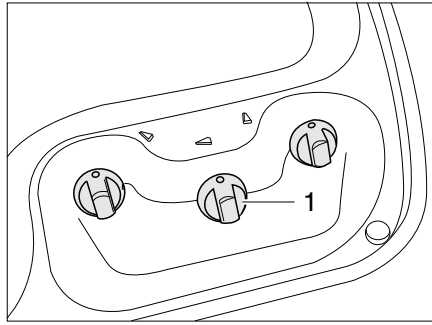
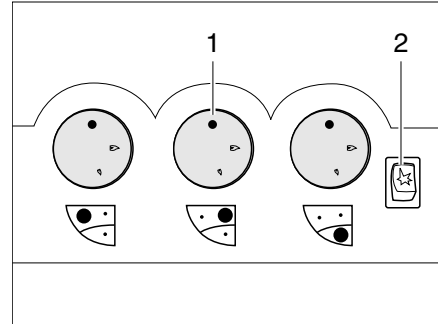

Fig. 322 Operating controls for gas cooker (without piezo ignition button)
Fig. 323 Operating controls for gas cooker (with piezo ignition button)
- Turn the control knob (Fig. 322,1 or Fig. 323,1) on the burner you wish to use to the ignition position (large flame).
- If an ignition button (Fig. 323,2) is present: Create a spark by pushing the ignition button.